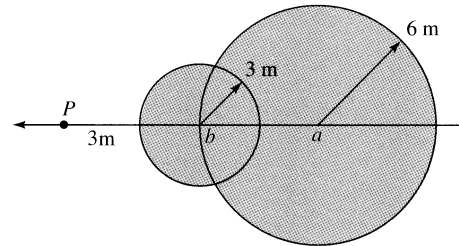

Fig. P9.120
**9.120** The particle in Fig. P9.120 is moving in sea-level standard air. From the two disturbance spheres shown, estimate (a) the position of the particle at this instant; and (b) the temperature in  $^\circ\text{C}$  at the front stagnation point of the particle.